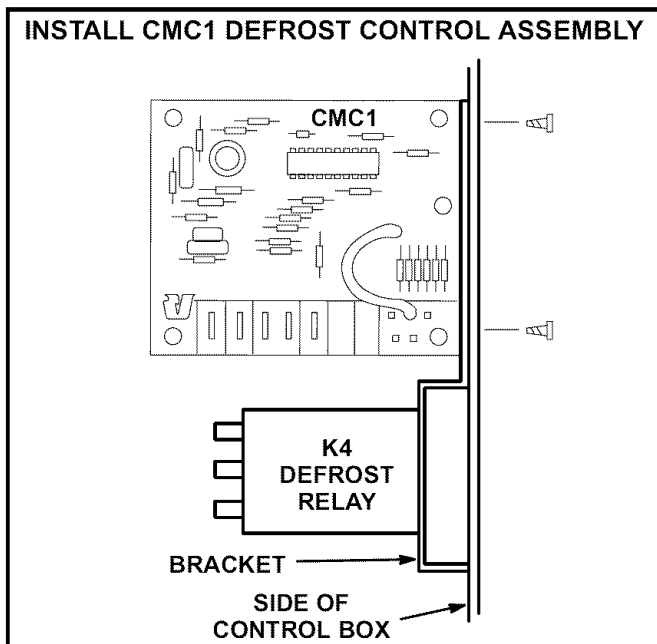

FIGURE 2
- 6- Position the CMC1 defrost control in the control box. See figure 2. Use the mounting bracket as a template to drill two 3/16" diameter holes. Use two #8 - 32 X 1/2" screws provided to secure bracket.